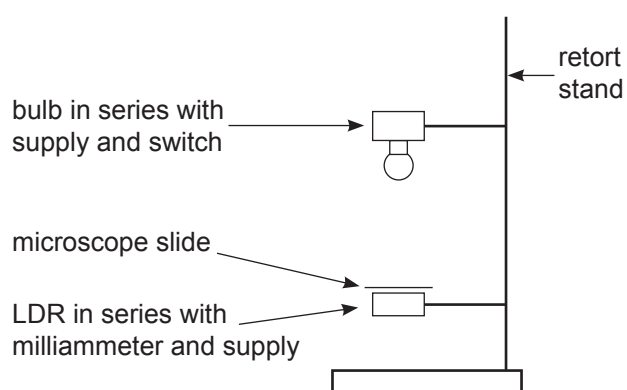

Fig. 2.1
- (a) The apparatus has been set up for you as shown in **Fig. 2.1**. There is a single microscope slide between the bulb and the LDR.